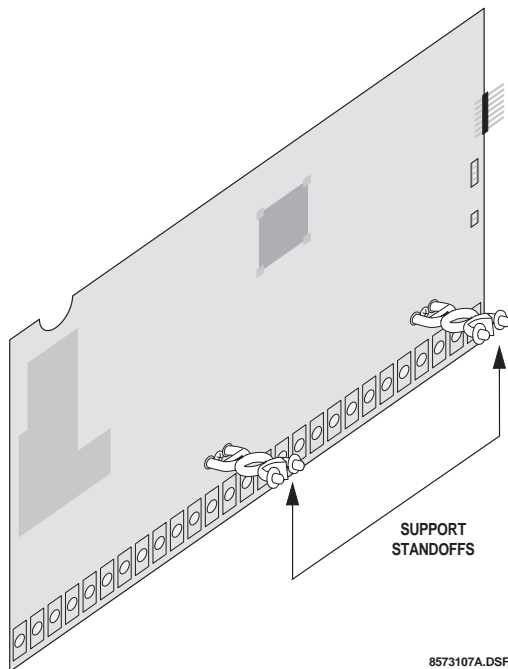

Figure 22. Installing the Support Standoffs (Hardware Panel Shown—Combination Hardware/Wireless Panel Similar)
- Install the standoffs at the locations shown in Figure 22.